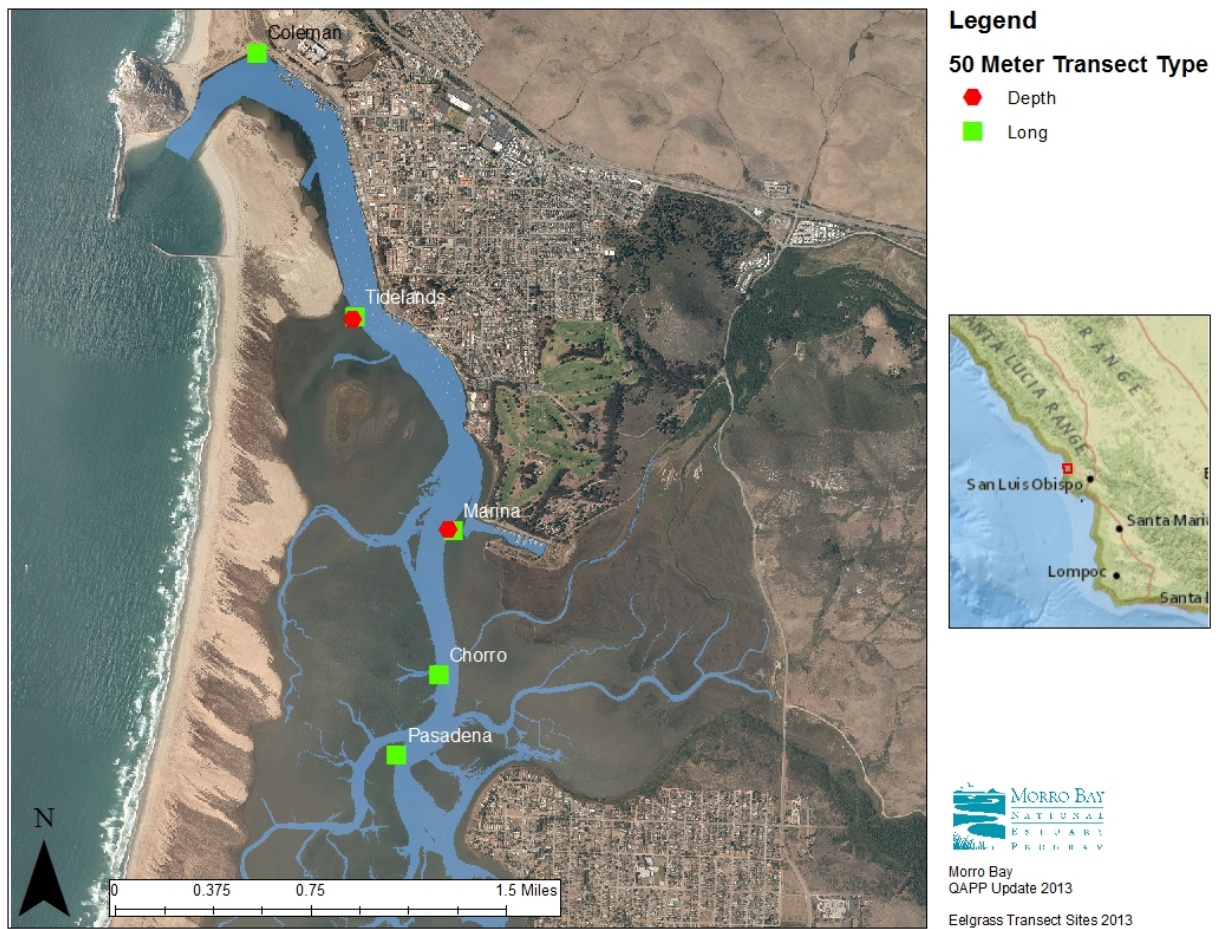

**Figure 6.4.8. MBNEP Bioassessment and Algae Monitoring Locations**
- Figure 6.4.8: MBNEP bioassessment and algae monitoring locations